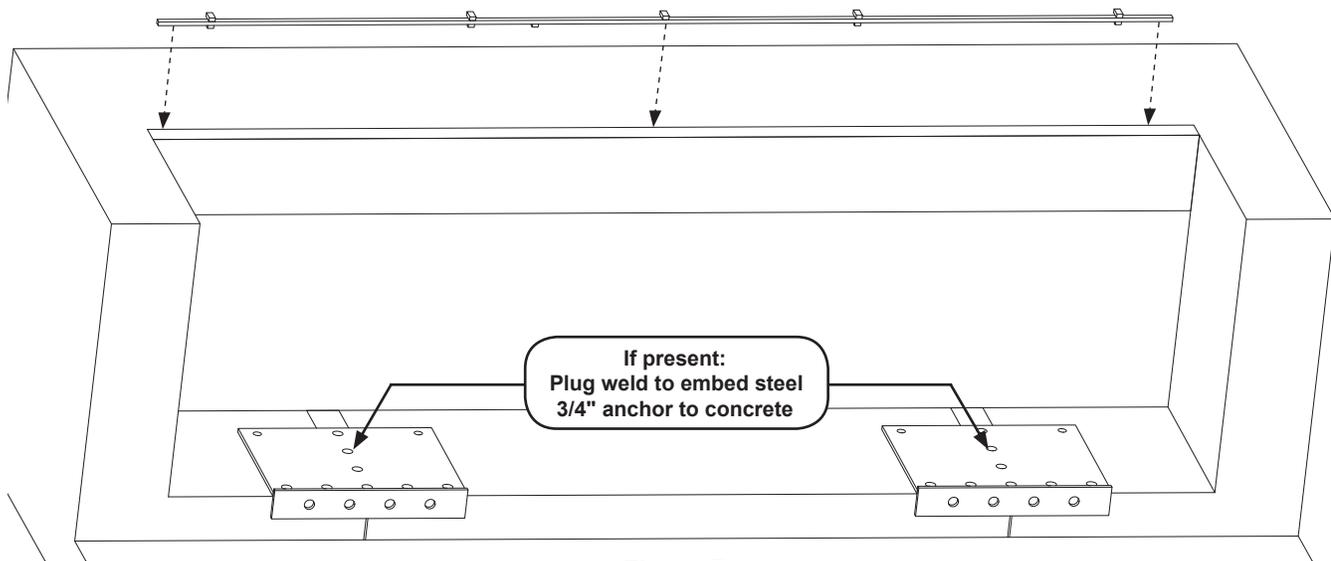

Figure 7
3. If optional pit floor weldments are required, position over pit floor embed steel per the layout drawings provided by Systems, LLC. Plug weld pit floor weldments to embed steel. Anchor remaining holes with 3/4" x 5-1/4" min. wedge anchors. Torque all anchors to the vendor specifications. See Figure 7.